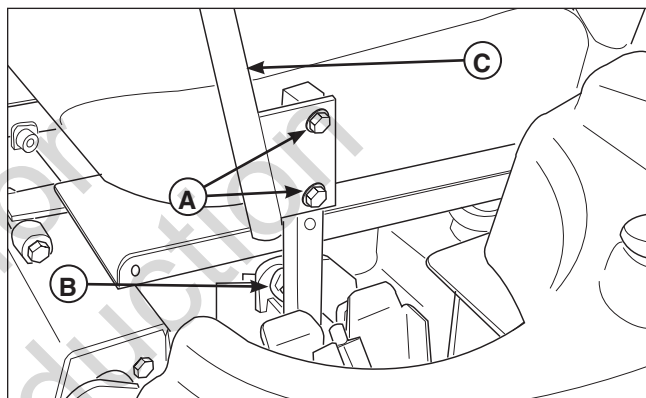

Figure 30. Control Lever Adjustment
Loosen the mount hardware (A, Figure 30) and pivot the lever(s) (C) fore or aft to align with each other.
Remove the mounting hardware (A, Figure 30) and reposition the handle either up or down from its original position. You will need to readjust the handle alignment as described above.